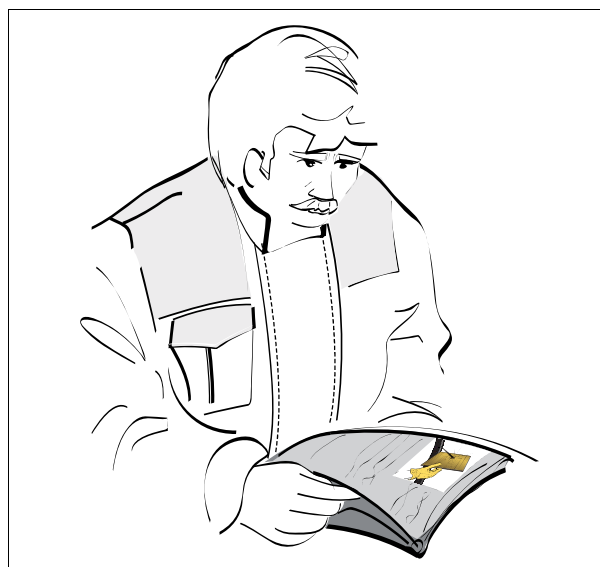

Fig. 1.
<p>4 297-148 M1</p>	<ul style="list-style-type: none"> - 4297148M1 ((N) fig. 1) - WARNING: Falling hazard Do not step on PTO shield.
<p>4 296-946 M1</p>	<ul style="list-style-type: none"> - 4296946M1 ((O) fig. 1) - WARNING: Runaway machine and runover hazards. Shut off engine, remove key and apply park brake before leaving the tractor unattended.
<p>4 296-958 M1</p>	<ul style="list-style-type: none"> - 4296958M1 ((P) fig. 1) - WARNING: Falling and crushing hazard. Wear the seat belt when using the instructor seat Read the Operator Instruction Book for more information: - The instructor seat is not intended for use by children. - The instructor seat must not be used to transport passengers. - The instructor seat must only be used by service personnel or for training purposes.
<p>4 296-950 M1</p>	<ul style="list-style-type: none"> - 4296950M1 ((Q) fig. 1) - WARNING: Avoid personal injury Read the Operator Instruction Book for safety information and operating instructions before operating the tractor.
<p>4 350-916 M1</p>	<ul style="list-style-type: none"> - 4350916M1 ((R) fig. 1) - DANGER: Explosion hazard – contents under pressure. Fill accumulators with nitrogen only – other gases may explode. See Operation section of manual for detailed information.
<p>4 297-924 M1</p>	<ul style="list-style-type: none"> - 4297924M1 ((S) fig. 1) - DANGER: Electrocution hazard Tractors fitted with a front loader: Exercise extreme caution to avoid coming into contact with power lines.
<ul style="list-style-type: none"> - 4349217M1 ((T) fig. 1) - WARNING: Towing - Carefully read the specific instructions from the Operator Instruction Book before towing the tractor.
<ul style="list-style-type: none"> - 4296960M1 ((U) fig. 1) - WARNING: Crushing hazard if the tractor overturns Wear the seat belt when using the instructor seat Read the Operator Instruction Book for more information: - The instructor seat is not intended for use by children. - The instructor seat must not be used to transport passengers. - The instructor seat must only be used by service personnel or for training purposes.
<ul style="list-style-type: none"> - 4296962M1 ((V) fig. 1) - DANGER: Falling and crushing hazard. Do not sit on the tractor fenders.
- to have read and understood this entire book — always consult the dealer as soon as there is any doubt or lack of understanding *fig. 1*